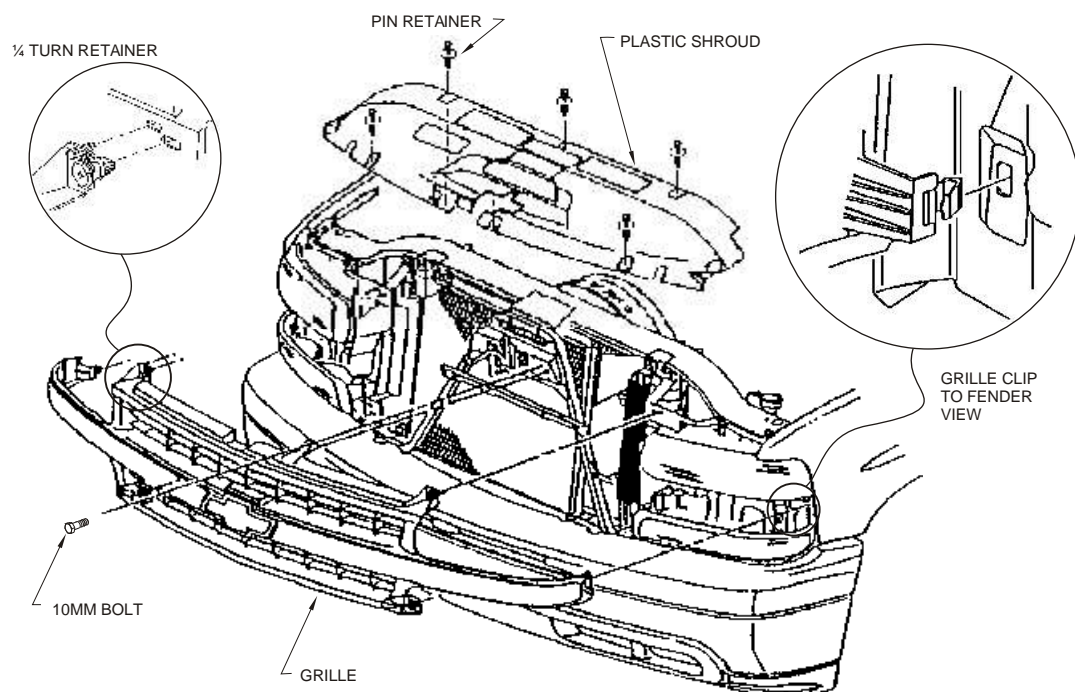

FIGURE 1
- STEP 6. Remove plastic shroud above grille by removing the seven pin retainers. Pull center pin up with small flat screwdriver. SEE FIGURE 1.
- STEP 7. Remove grille from truck by removing 6MM bolt from top of grille. Turn the four retainers 1/4 turn counter-clockwise with Phillips screwdriver. Pull on outer edge of grille by applying firm pressure away from the fender. Repeat on the opposite side. Carefully remove grille from vehicle. SEE FIGURE 1.